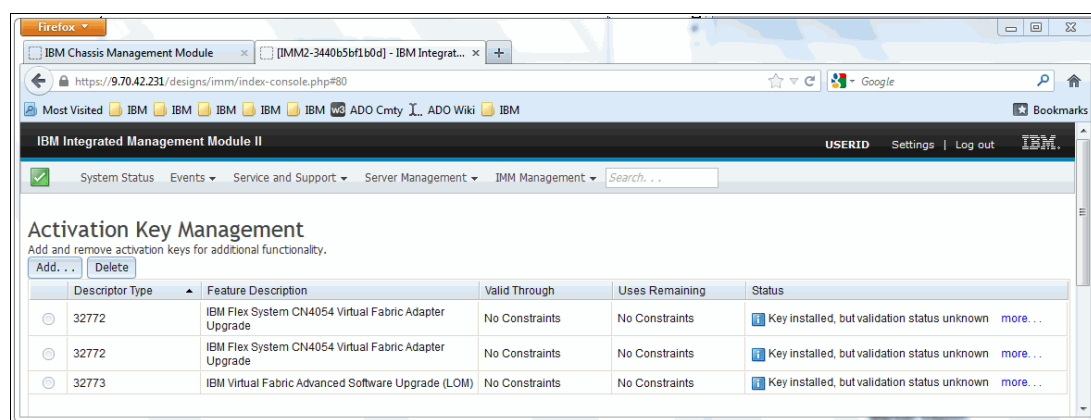

Figure 7-11 IMM Active Key Management
11.If FCoE is not available, log on to IMM using the web interface. On the **IMM Management** menu, select **Active Key Management** as shown in Figure 7-11 and ensure that the appropriate keys to enable FCoE are installed.
- In Figure 7-11, the key is shown in the **Feature Description** column as **IBM Flex System CN4054 Virtual Fabric Adapter Upgrade** and **Key installed** is shown in the **Status** column.